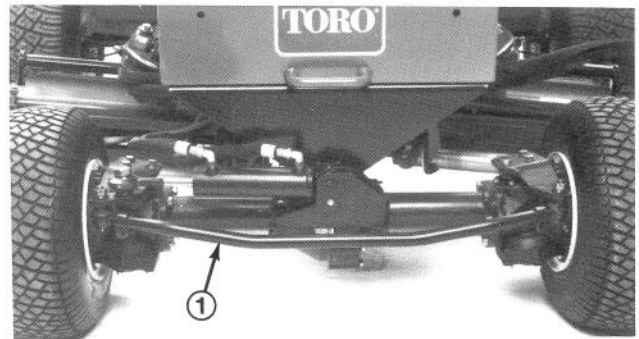

Figure 27
2. To adjust, loosen clamps at both ends of tie rod (Fig. 27).